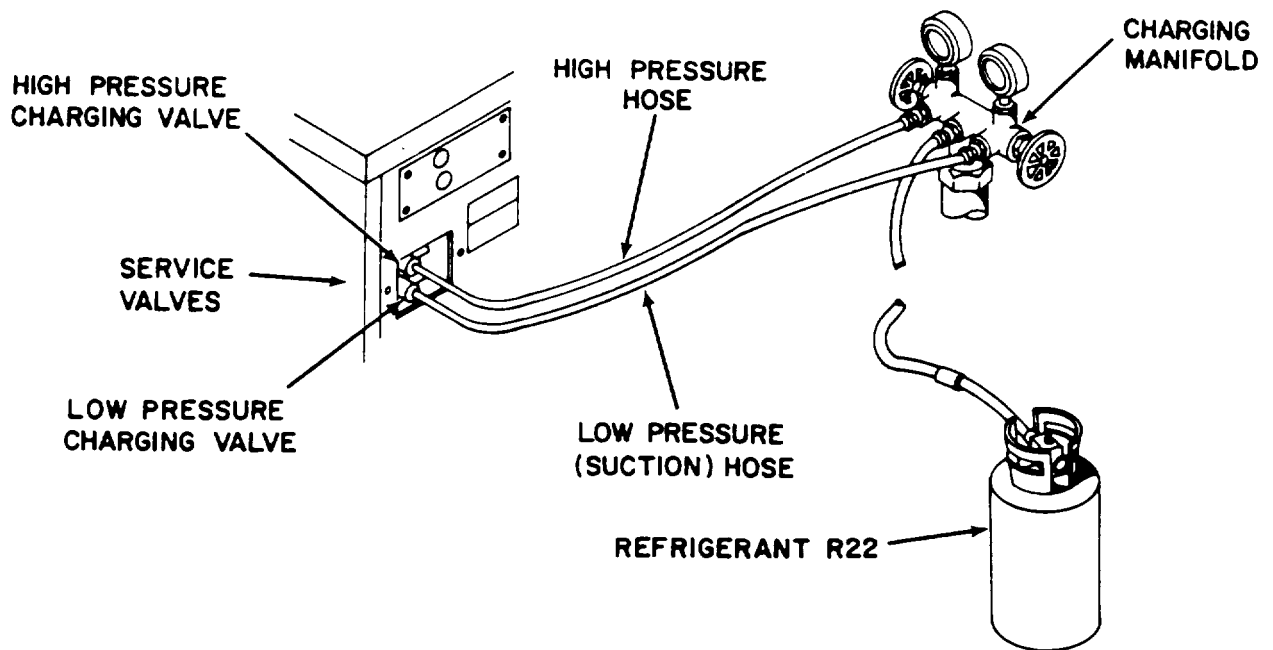

Figure 5-1. Leak Test Refrigerant Bottle Setup.
5. Remove caps from both service valves and loosely connect hose from charging manifold to service valves. Make sure the high pressure hose is connected to the high pressure service valve and the low pressure hose is connected to the low pressure (suction) service valve. Purge air from lines and tighten hoses on valves. See Figure 5-1.